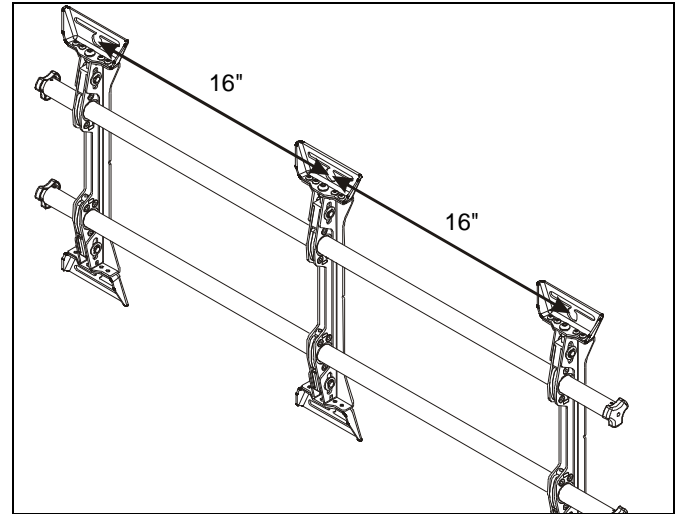

Figure 3
4. Position three wall plates 16" apart from each other on rails. (See Figure 3)